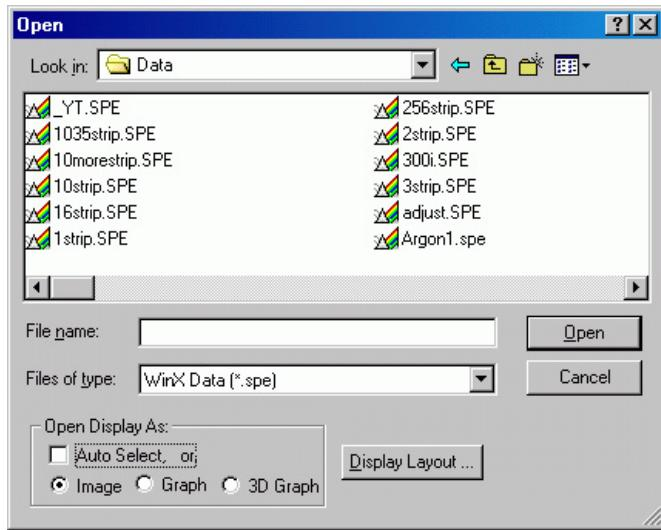

Figure 95. Open dialog box
- From the File menu, select **Open**. The **Open** dialog box (Figure 95) allows you to select the image to be opened. The **Look-In** field provides a browser function so you can easily find the directory where the images. By default, the data directory is a subdirectory of the directory where WinSpec/32 was installed. Subdirectory names and the filenames of all files of the specified type (the WinSpec/32 data type is *.spe) in the current directory are listed in the box below the directory name. The WinSpec/32 data type is WinXData (*.spe).